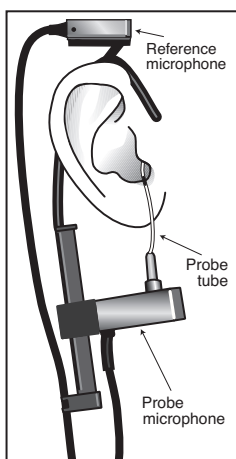

Figure 5.2.4B
4. Insert the probe tube into the client's ear so that the mark is at the location where the bottom of the outer surface of the earmold would be. See Figure 5.2.4B.
Hints: To help keep the probe tube in place, position the tube so that it runs through the tragal notch, resting against the lower edge of the tragus (Figure 5.2.4B) If necessary, adjust the integrated microphone for better positioning. If desired, use surgical tape to hold the tube in position.
NOTE: Figures 5.2.4B and 5.2.4C contain pictures of the integrated probe microphone. The probe microphone setup with the older style M300 separate probe microphone set is shown in Figure 5.2.4D.
1. Place the integrated probe microphone on the client's ear. See Figure 5.2.4B.